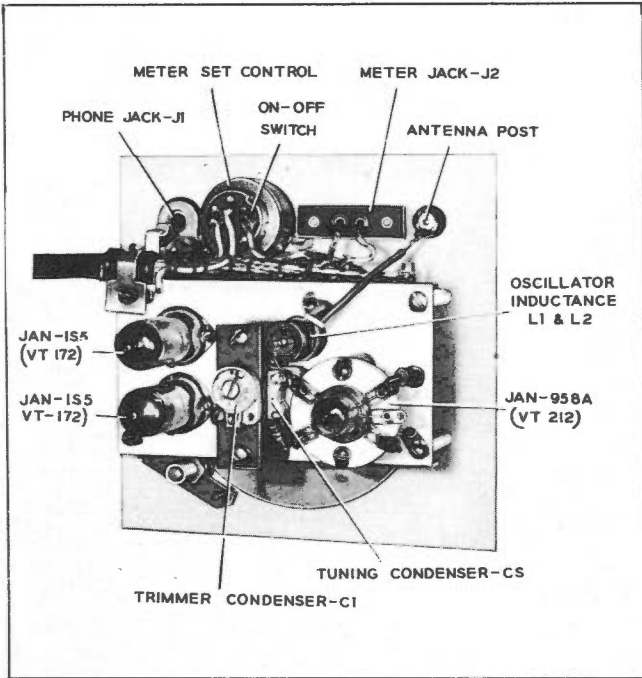

Figure 5-11. Monitor BC-1255-A—Interior View
- (1) Remove four screws from the front panel.
- (2) Use extreme caution in removing the monitor from the case.
(3) See figure 5-11 for location and types of tubes used.
(4) Replace defective tubes and carefully put the monitor and surplus cable back into case.
(5) Replace the four panel screws.